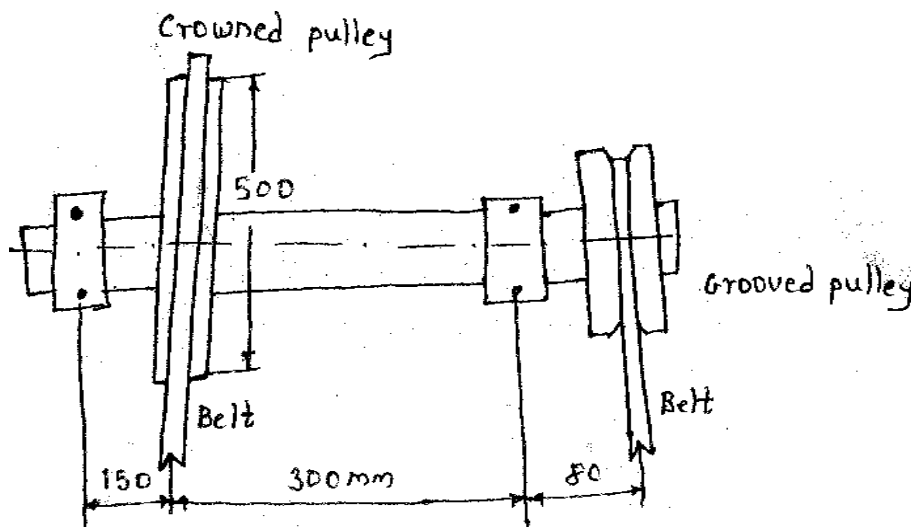

Figure 1
1. A V-grooved pulley 200 mm pitch circle diameter is receiving 5 kW from a motor and rotates a shaft at 300 r.p.m. (figure 1). A crowned pulley, 500 mm in diameter, supplies power to a machine in a workshop. The angle of wrap for both pulleys is  $\pi$  and the coefficient of friction between belt and pulley is 0.3. The semi-groove angle for smaller pulley is  $20^\circ$ . For the material of shaft,  $E = 205 \text{ kN/mm}^2$ , and  $G = 84 \text{ kN/mm}^2$ . Shaft is made of carbon steel having  $s_{yt} = 267 \text{ N/mm}^2$  and  $s_{ut} = 530 \text{ N/mm}^2$ . The pulleys are keyed to the shaft. Determine the diameter of shaft according to A.S.M.E. code.  $K_b = 1.5$  and  $K_t = 2.0$ . Neglect centrifugal tension in belt. Check that  $\theta < 0.5^\circ$ .